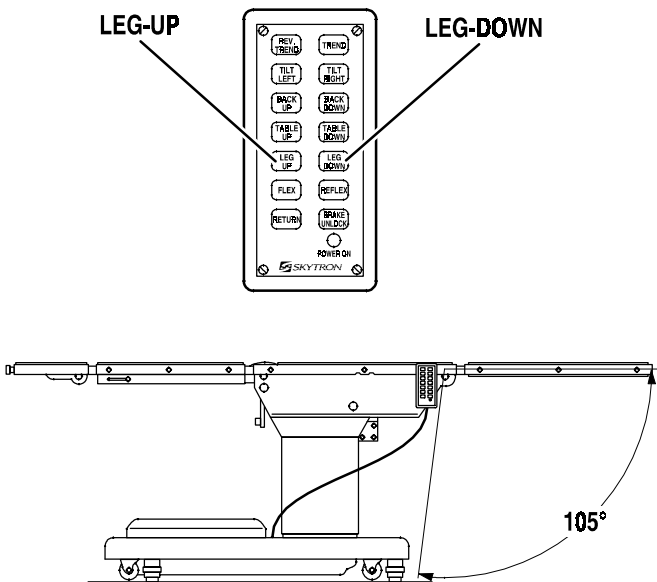

Figure 3-9. Leg Section Positioning (6001)
g. Leg Section. To lower the leg section (6001 only), press the LEG DOWN button (figure 3-9). The leg section will go down to 105° below horizontal. To raise the leg section, press the LEG UP button. The leg section will go up to 20° above horizontal.